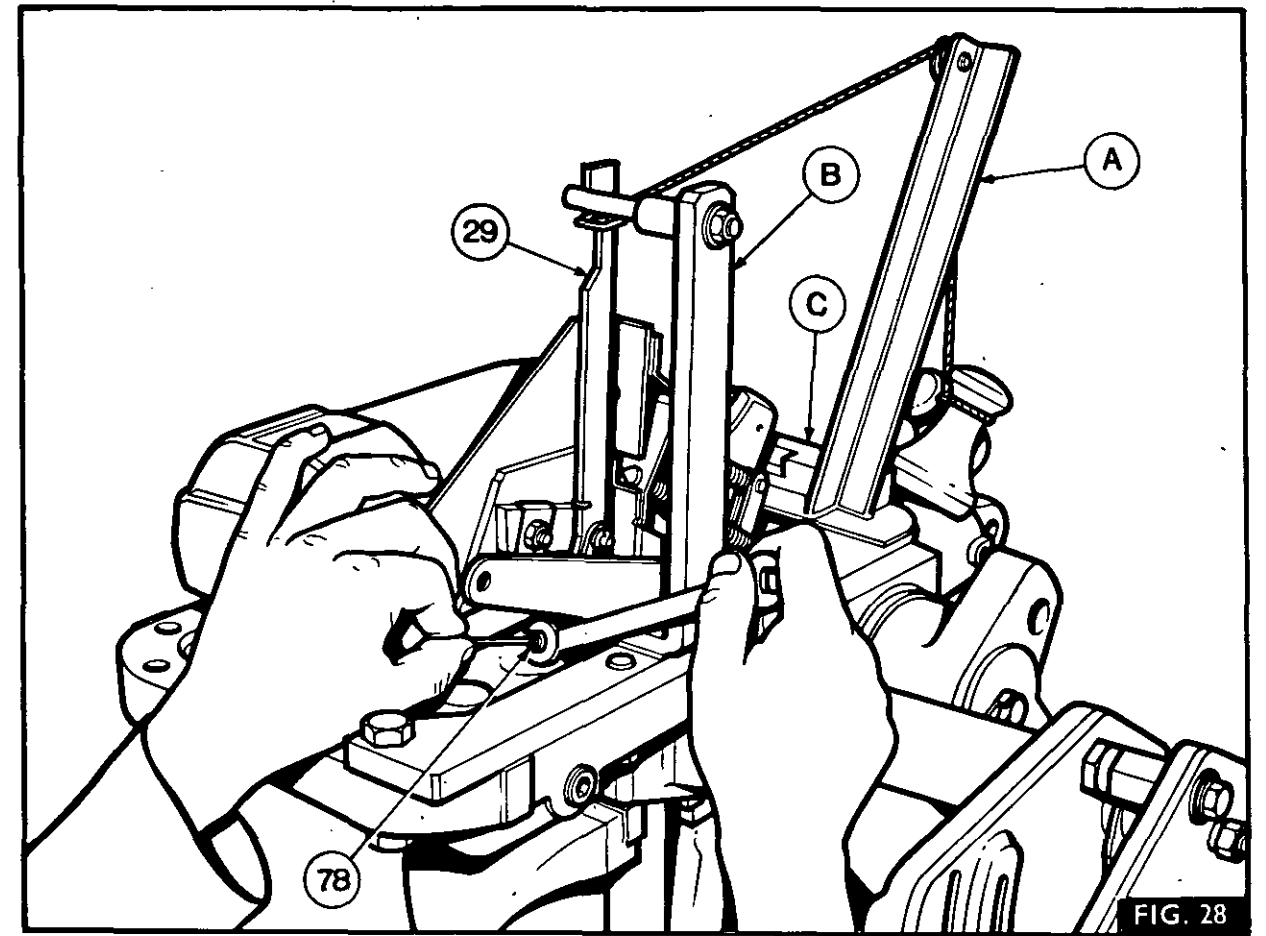

FIG. 28
3. Fig. 28. Position MF 272 (C) onto the lift cover as shown, then locate the ram arm onto the tool.
4. Position MF 273 (A) on the lift cover and apply a load of 1,4 kg (3 lb) to the end of the vertical lever as shown.
5. Locate MF 356 (B) on the lift cover as shown.
6. Adjust the Allen screw (78) on the vertical lever (29) until the vertical lever just contacts the pin on MF 356.